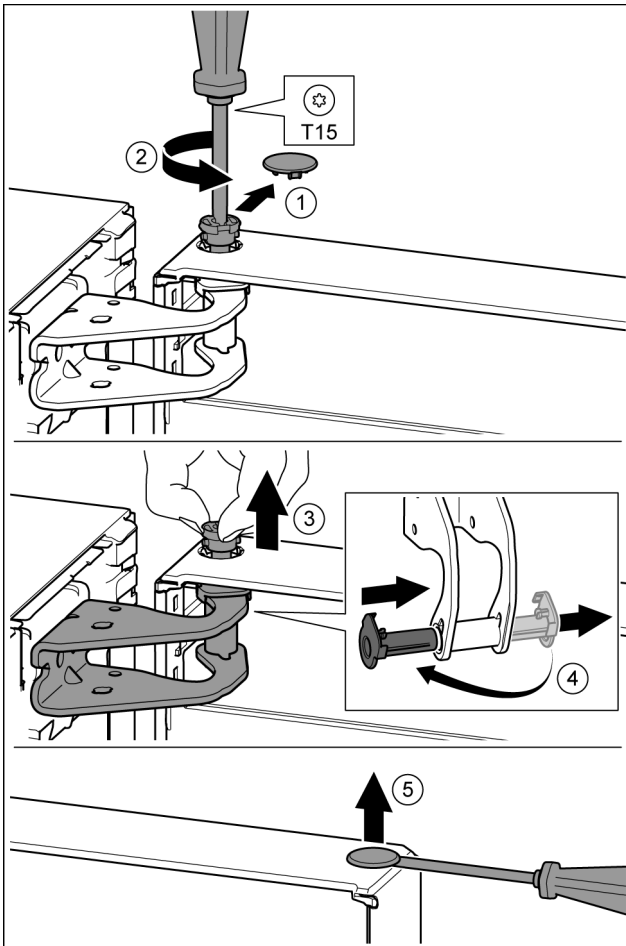

Fig. 22
- ▶ Carefully remove the protective cover. *Fig. 22 (1)*
- ▶ Undo the bolt a little with a T15 screwdriver. *Fig. 22 (2)*
- ▶ Hold the door and remove the bolts with your fingers. *Fig. 22 (3)*
- ▶ Pull the bearing bush out of the guide. Insert from the other side and click into place. *Fig. 22 (4)*
- ▶ Carefully lift the plugs out of the door bearing bush with a slotted screwdriver and remove. *Fig. 22 (5)*